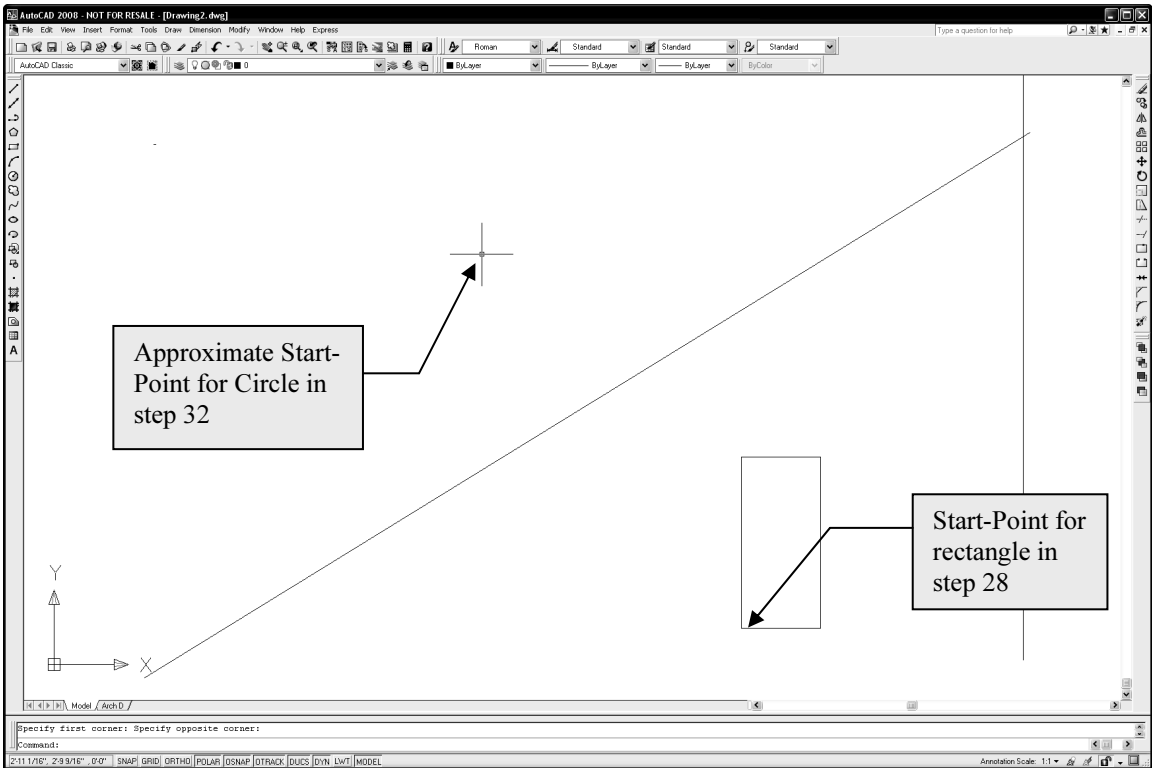

Figure 2-1.13 Drawing with Rectangle added
28. Pick your “**first corner point**” somewhere near the middle-bottom of the *Drawing Window* (Figure 2-1.13).
- 32. You are now prompted to pick the center point for the circle; pick a point approximately as shown in Figure 2-1.13.